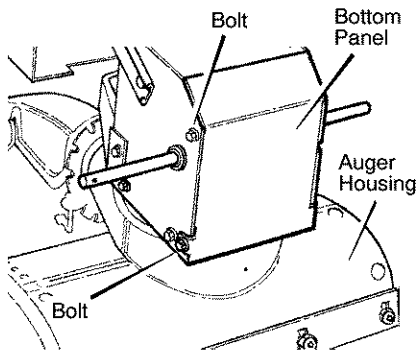

Figure 39
2. Loosen the **bolts** on each side of the **bottom panel** (see Figure 39).
- Install the **bottom panel** (see Figure 39).
13. Install the **bottom panel** (see Figure 39).